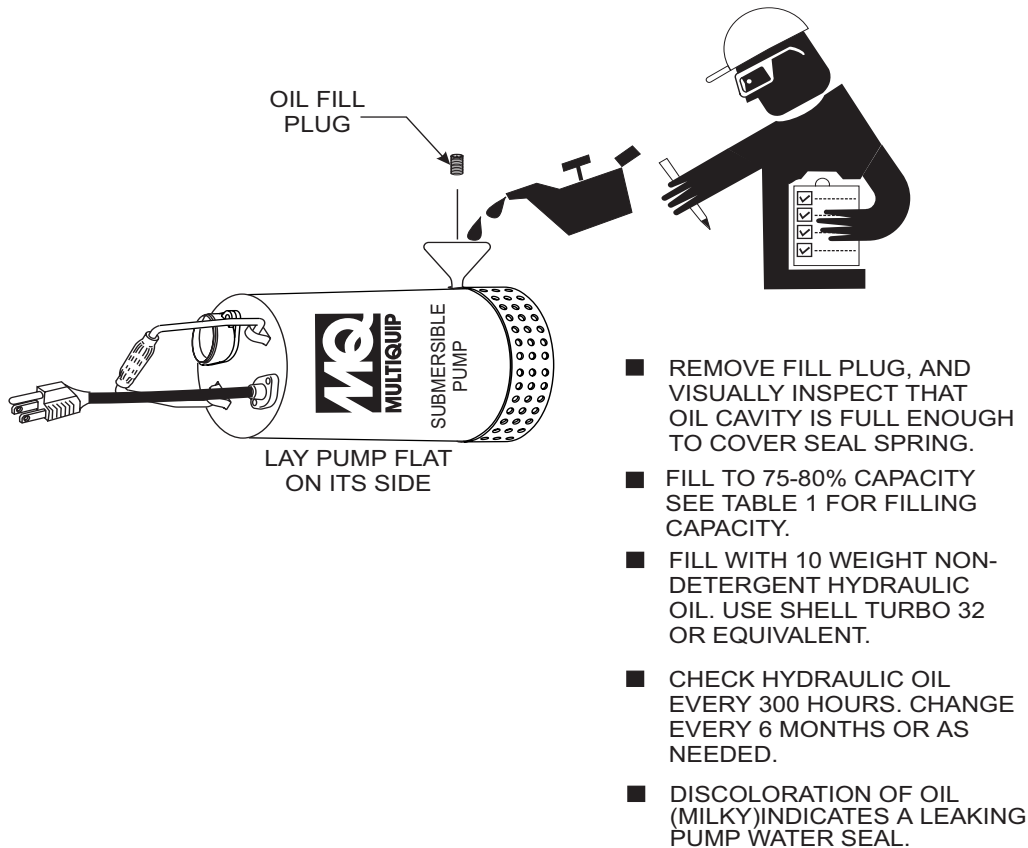

Figure 12. Checking Hydraulic Oil
1. Lay the pump (Figure 12) on its side with the oil plug facing upwards.